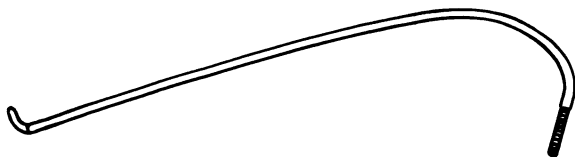

Fig. 12-10 Seal removing tool: a spoke that has been ground and bent to shape
**Seal Replacement.** Many engines are designed so that crankcase seals can be replaced without removing the engine or disassembling the crankcases. An outer spoke can be ground to make a very serviceable seal remover (Fig. 12-10). Insert the hook under the lip of the seal and